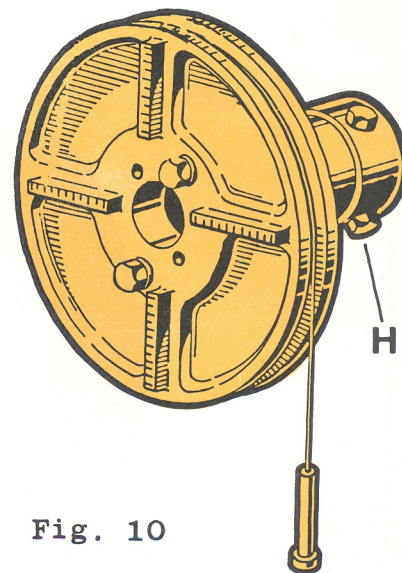

Fig. 10
**10** Fit the tool so assembled to the end of pinion shaft and secure it in place by tightening the three setscrews "H" of the tool A.2.0274. See fig. 10.